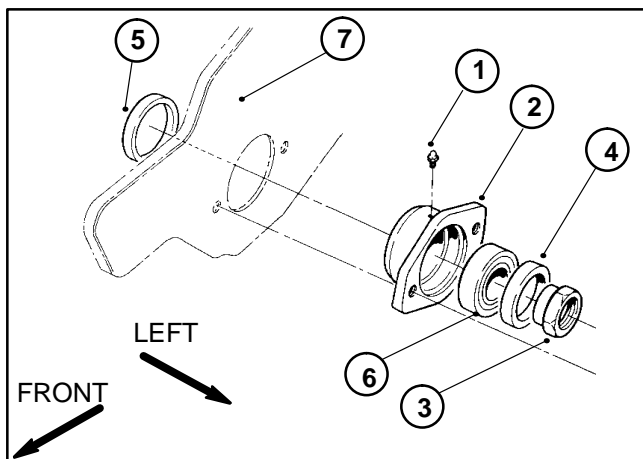

Figure 33
6. Secure cutting reel from turning with a block of hard wood, and remove lock nut from the cutting reel shaft (Fig. 33).
- B. Remove large seal, small seal, and bearing from the bearing housing (LH) (Fig. 33).
3. Reassemble bearing housing (LH) components (Fig. 33).
6. Attach bearing housing (LH) through the frame onto the reel shaft (Fig. 33).
7. Secure cutting reel from turning with a block of hard wood. Tighten lock nut to the cutting reel shaft (Fig. 33). Torque lock nut to 50 ft-lb (6.9 kg-m).